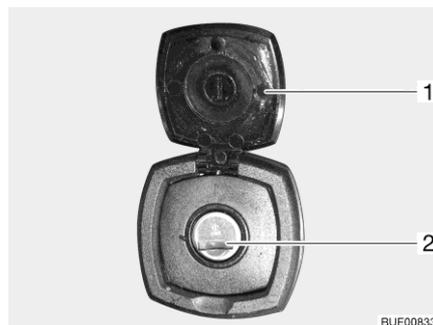

Fig. 81 Flap lock, square
- Open the cap (Fig. 81,1).
- Insert key into locking cylinder (Fig. 81,2) and turn a quarter turn.